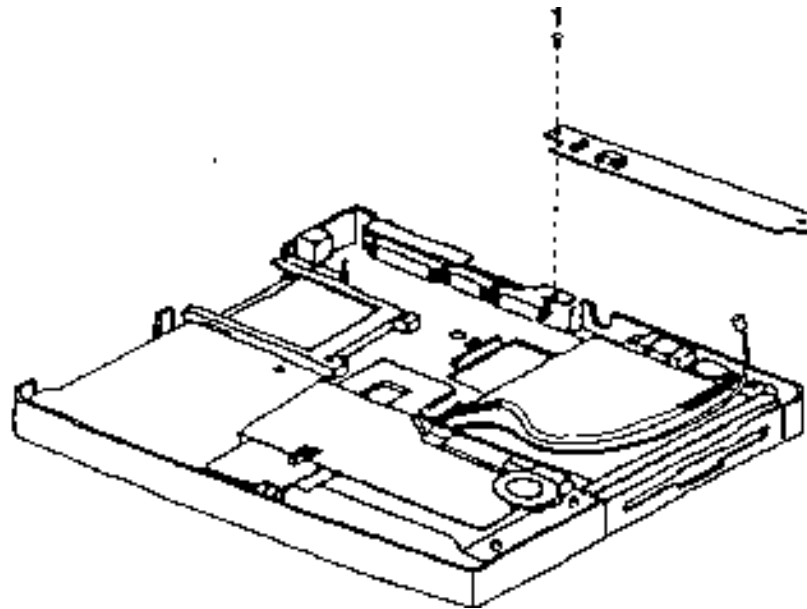

FIGURE 7-10. DC/AC BOARD DISASSEMBLY/REASSEMBLY
3. REMOVE ONE SCREW (FIGURE 7-10 #1) AND LIFT THE DC/AC BOARD FREE.
1. FIX THE DC/AC BOARD INTO PLACE AND REPLACE THE SCREW (FIGURE 7-10 #1).